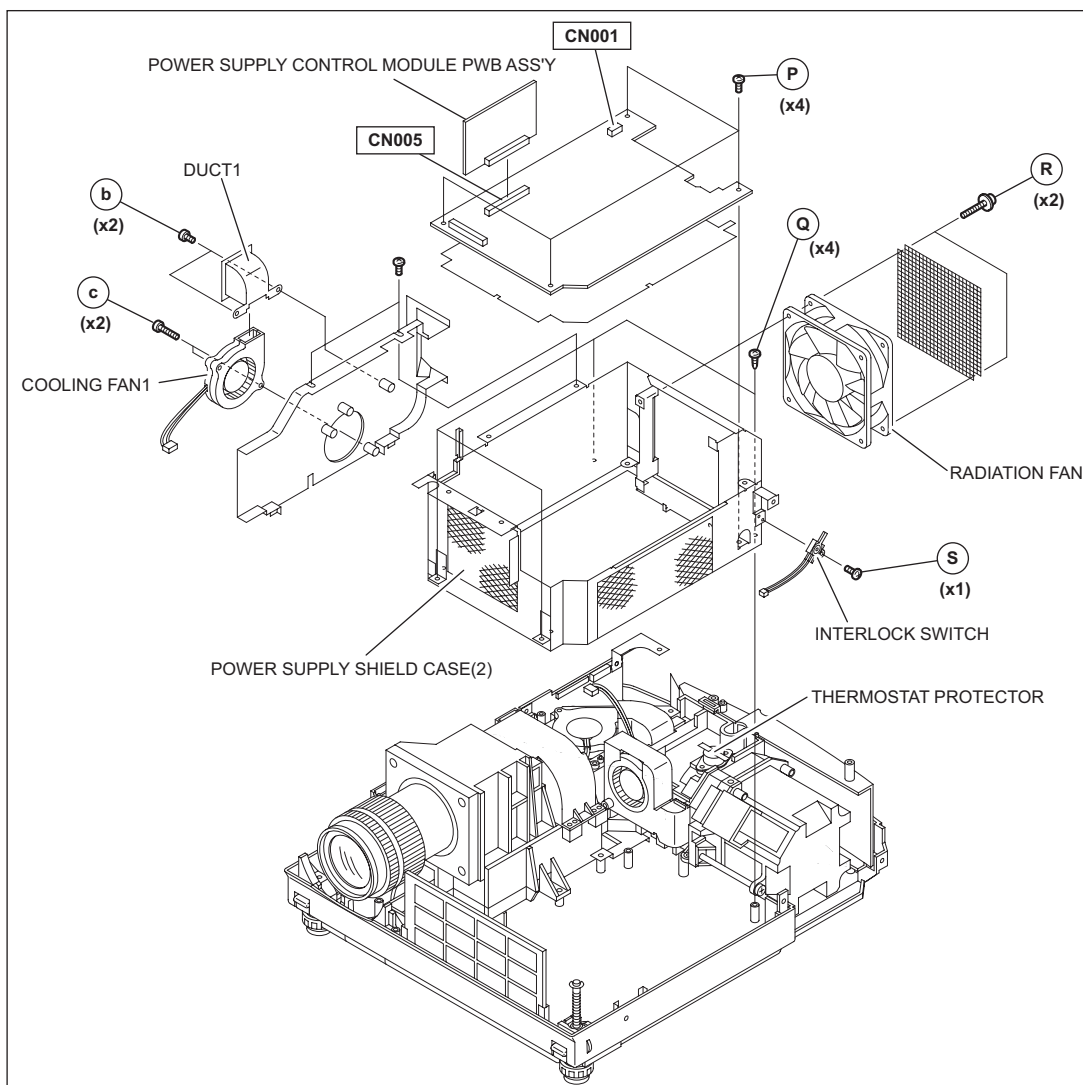

Fig.5
- (1) Remove the 4 screws marked **P** fixing the POWER SUPPLY PWB ASS'Y. (Fig.5)
- (2) Disconnect the POWER SUPPLY CORD from the connector **CN001**.
- (3) Pull out the harness from the THERMOSTAT PROTECTOR.
- (4) Pull out the POWER SUPPLY CONTROL MODULE PWB ASS'Y from CN005. (Fig.5)
- (1) Pull out the POWER SUPPLY CONTROL MODULE PWB ASS'Y from the connector **CN005** of the POWER SUPPLY PWB ASS'Y. (Fig.5)
- (1) Remove the 4 screws marked **Q** fixing the POWER SUPPLY SHIELD CASE(2). (Fig.5)
- (2) Lift up the POWER SUPPLY SHIELD CASE(2) to remove it.
- (3) Remove the 2 screws marked **R** fixing the RADIATION FAN to the POWER SUPPLY SHIELD CASE(2). (Fig.5)
- (4) Remove the 1 screw marked **S** fixing the INTERLOCK SWITCH to the POWER SUPPLY SHIELD CASE(2), and remove the INTERLOCK SWITCH. (Fig.5)
- (5) Remove the 2 screws marked **b** fixing the DUCT1. (Fig.5)
- (6) Remove the 2 screws marked **c** fixing the COOLING FAN1. (Fig.5)